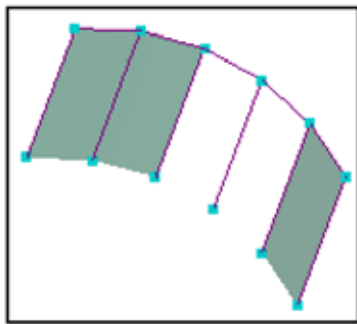

Figure 41: Create regions by ruling
- The geometry should look like Figure 41.